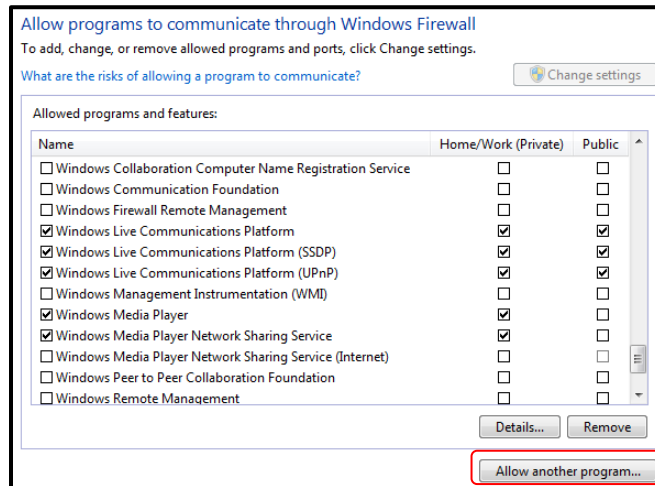

Figure 85 - Adding another program to allowed list
- Click the “Allow another program...” button. Refer to Figure 85.